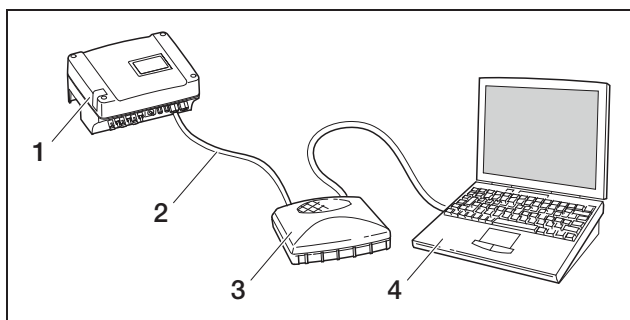

Fig. 42: Connecting inverter and computer with Ethernet cables and switch
b) via a local network (switch and Ethernet cable, see figure 42).